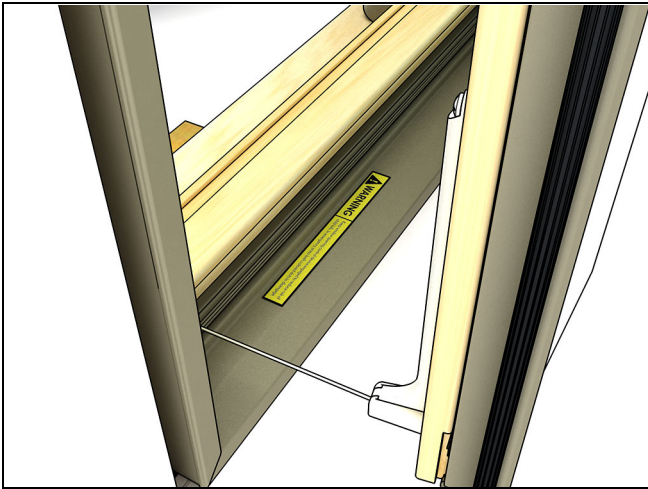

Figure 10 Place the WOOD sticker on clean exterior sill Ultrex.
- For all ELCA/ELCANF, clean the exterior sill Ultrex and place the WOCD sticker on the exterior sill Ultrex in line with the hinge track, readable from the interior, 2" to 3" from the locking-side jamb. See Figure 10.